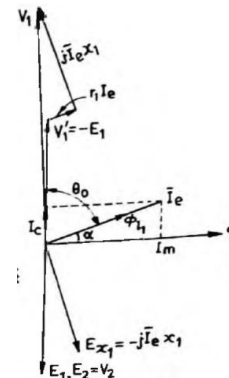

Fig. 7 (c) no load phasor diagram of an actual transformer
- The effect of primary resistance  $r_1$  can be accounted for, by adding to  $V_1'$ , a voltage drop equal to  $r_1 I_e$  as shown in Fig. 7 (c) such that  $r_1 I_e$  is in phase with  $I_e$  and therefore drawn parallel to  $I_e$  in the phasor diagram.